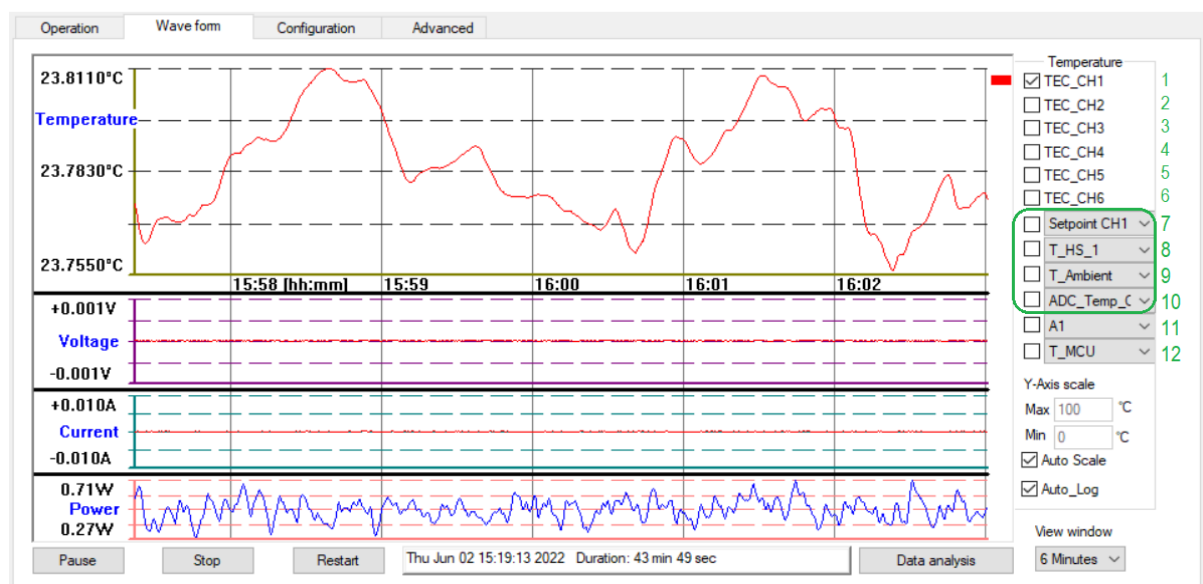

Figure 2.13: Options 7-12
- (7-12) in Figure 2.13 have a dropdown menu which allows users to view the setpoint for each of the TEC channels, group average temperature etc. The dropdown options are shown in Table 2.9